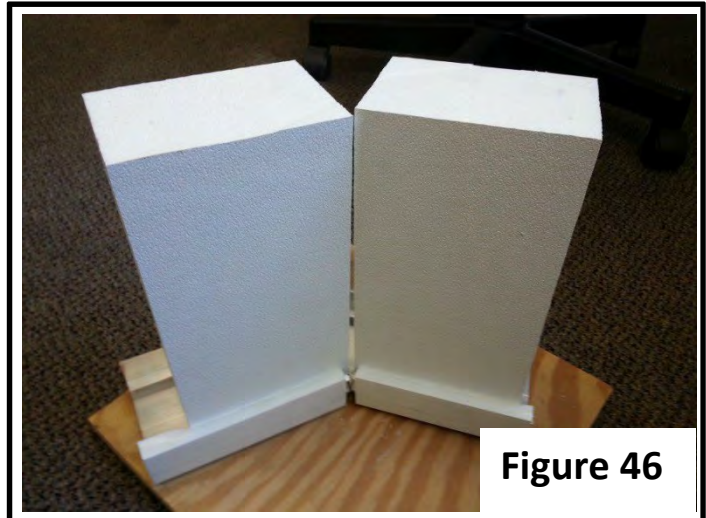

Figure 46
17. But solid fill together to the inside of the corner before installing outside corner cladding and inside corner blockings. **(Figure 46)**